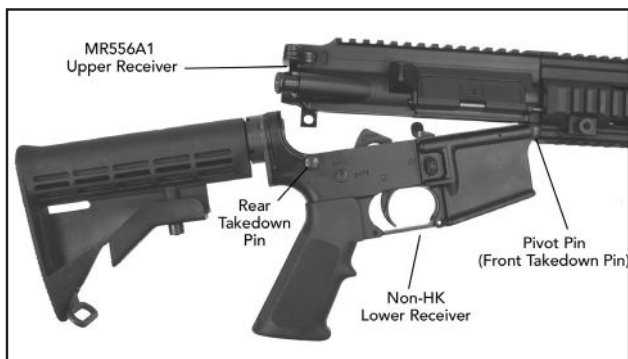

Fig. 98– Installing Front Takedown Pin
- 3) Mount the lower receiver to the upper receiver. Using finger pressure, press the front pivot pin from right to left so it captures and secures the upper receiver (Fig. 98).